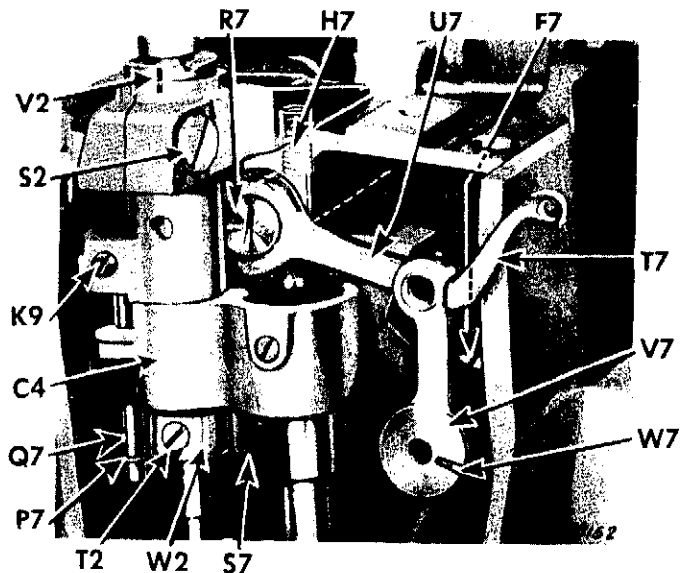

Fig. 320. Needle Thread Take-up
5. Unhook spring **P7** from hinge pin **Q7**, **Fig. 320**.
6. Loosen screw **K9**, **Fig. 320** and remove pin **Q7**.
7. Loosen set screw **T2** and remove collar **W2**, **Fig. 320**.
Spring **P7** must be hooked around hinge pin **Q7**, as shown in **Fig. 320**.
3. Loosen set screw **H7**, **Fig. 320** over hinge stud **R7**.
4. Loosen small set screw **F7** in needle bar crank **S7**, through hole in top of casting, as shown in **Fig. 320**.
5. Withdraw needle thread take-up **T7**, with link **U7**, hinge stud **R7** and stud **V7**, **Fig. 320** from machine head.
2. Locate mark **W7** on stud **V7**, as shown in **Fig. 320**, in relation to its set screw **F7**. Press firmly upon stud **V7** and tighten set screw **F7**.
3. Turn hand wheel while setting hinge stud **R7**, to make sure there is no end play nor binding; then tighten set screw **H7**, **Fig. 320**.